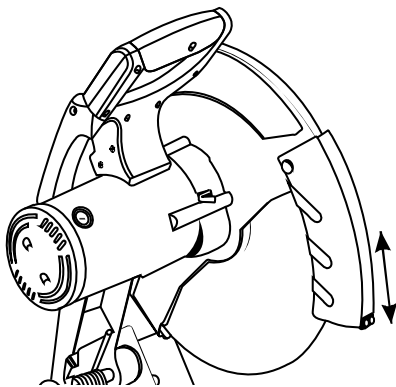

Figure 2
1. Lift the guard upward approximately 3" and then release it. (Figure 2) If the guard is functioning correctly, it will freely drop down to its original position.